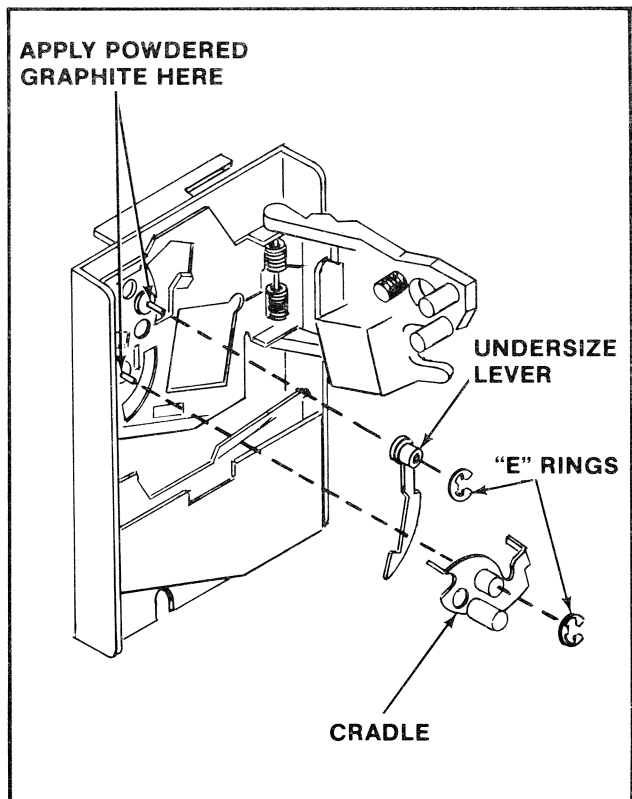

Figure 27 Lubricating the metal coin acceptor
- Use **ONLY** powdered graphite and put it **ONLY** on the moving parts of the coin acceptor. These parts are called out in Figure 27.